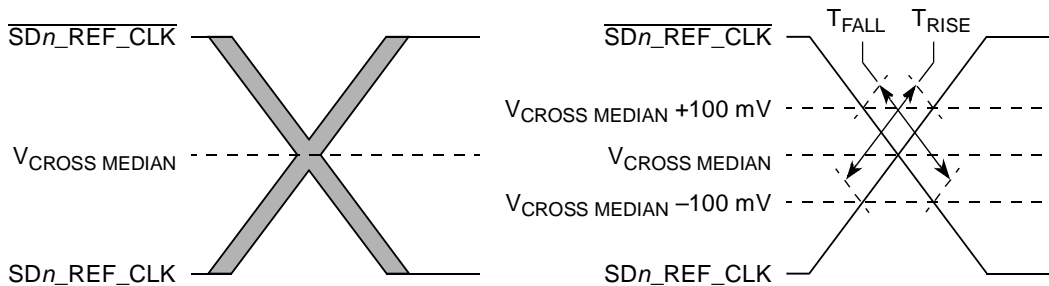

Figure 58. Single-Ended Measurement Points for Rise and Fall Time Matching
- 4 Matching applies to rising edge rate for SDn_REF_CLK and falling edge rate for $\overline{SDn_REF_CLK}$. It is measured using a 200 mV window centered on the median cross point where SDn_REF_CLK rising meets $\overline{SDn_REF_CLK}$ falling. The median cross point is used to calculate the voltage thresholds the oscilloscope is to use for the edge rate calculations. The Rise Edge Rate of SDn_REF_CLK should be compared to the Fall Edge Rate of $\overline{SDn_REF_CLK}$, the maximum allowed difference should not exceed 20% of the slowest edge rate. See Figure 58.